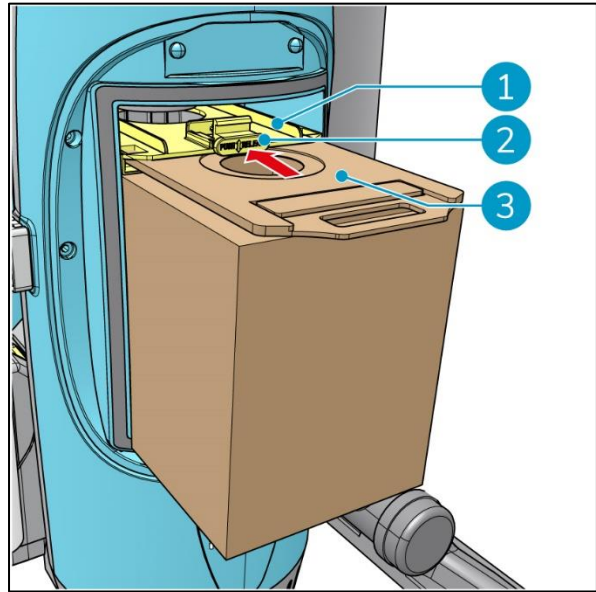

Figure 10
7. Place the yellow holder (Figure 10, pos 1) in its top position. Push the yellow button (Figure 10, pos 2) and it will click into its locked position.
8. Insert the cardboard collar of the new dust bag (Figure 10, pos 3) fully into the yellow bag holder.